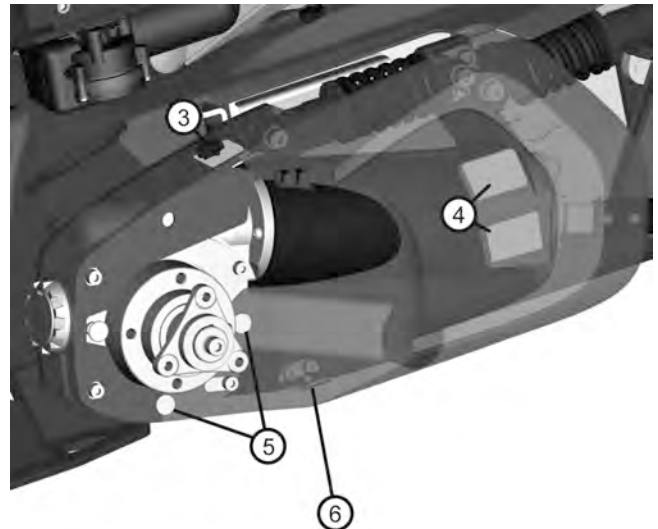

Figure 16. The drive motor cover is assembled with a knob (3) on the top and a dual lock (4) on the side and a fixing point (5) at the bottom.
The drive motor cover is assembled with a knob (3) on the top and hook and loop fasteners (4) on the side and a fixing point (5) at the bottom. See fig. 16.
1. Remove the knob (3). See fig. 16.
2. Pull the upper rear edge of the drive motor cover straight out to release the hook and loop fastener (4). Bend a bit at the lower edge to release the cover from the fixing point (6) and then pull it straight backwards to release it from the fixing points (5).